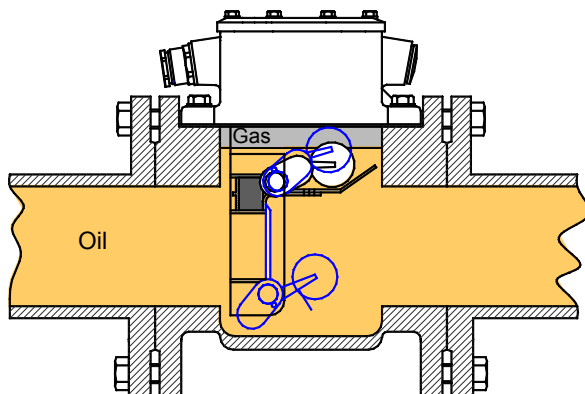

Figure 7 - Gas accumulation
3.1 Gas accumulation (Figure 7)